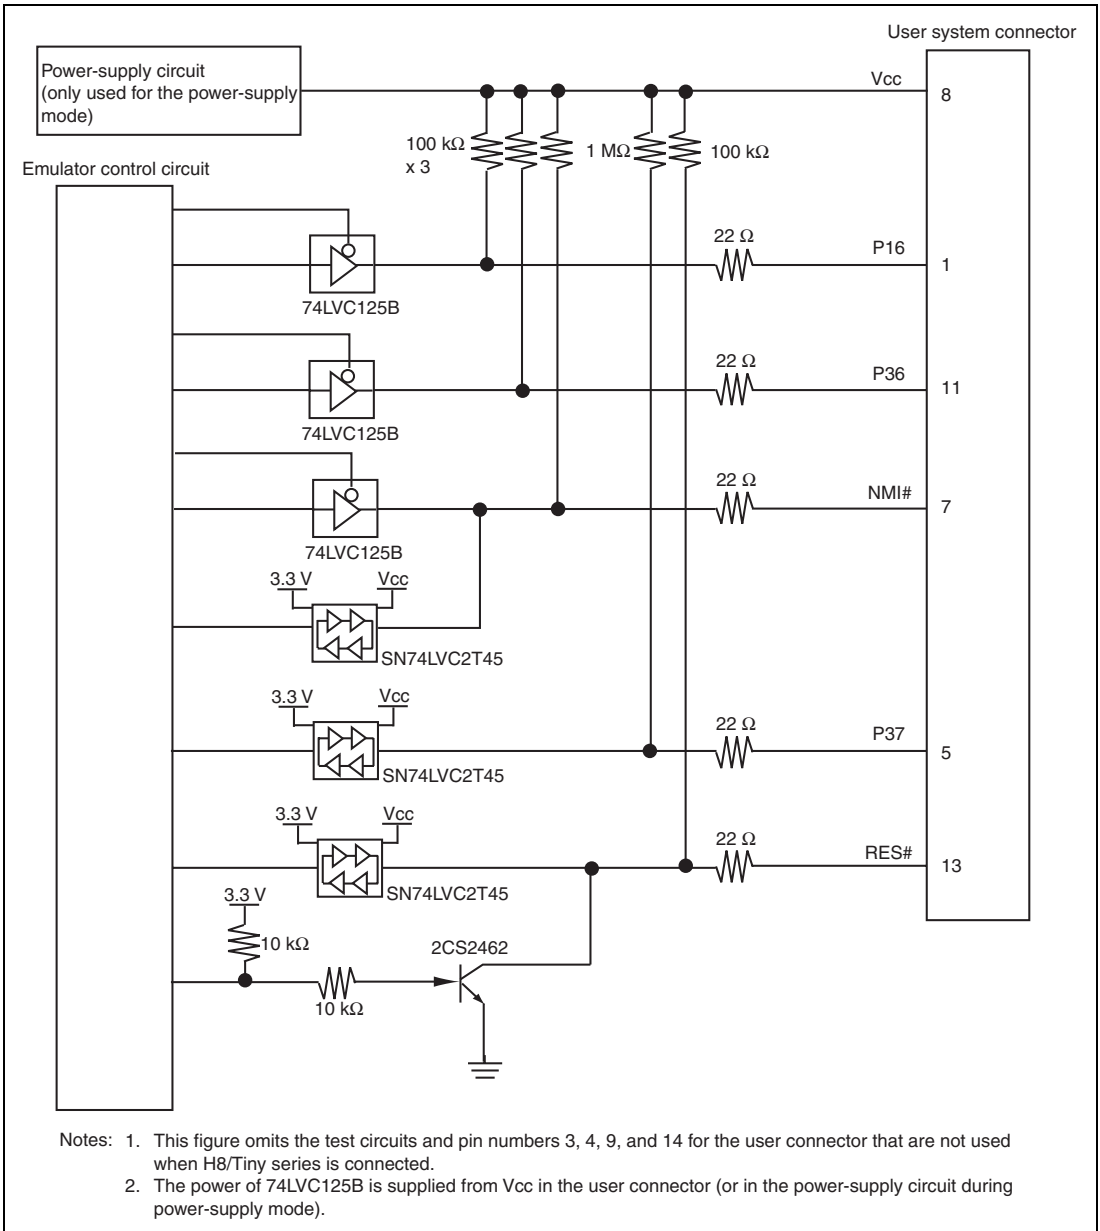

Figure 4.6 Interface Circuit in the E8a Emulator (Reference)
- Figure 4.6 shows the interface circuit in the E8a emulators. Use this figure as a reference when determining the pull-up resistance value.